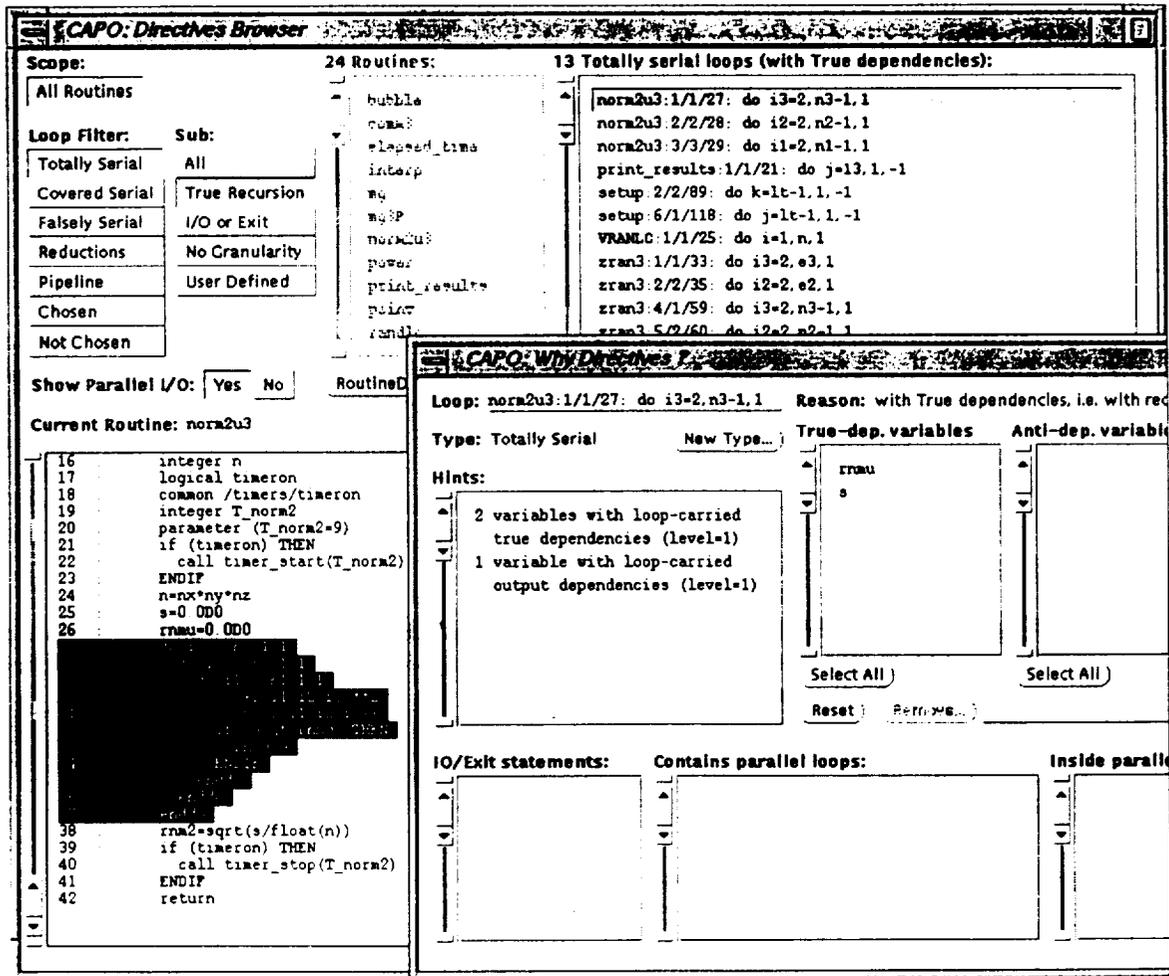

Figure T3-1: The window shows a serial loop in norm2u3, MG.
- 3. Browse directives.** In the **View** menu, click *Directives* to perform the directives analysis. The **Directives** browser will be popped up shortly. Choose scope **All Routines** and loop filter **Totally Serial** and sub-filter **True Recursion**. Select loop: `norm2u3:1/1/27: do i3=2,n3-1` and click the **Why** button. Figure T3-1 is what you will see afterwards. The loop nest (and two others inside) contains an IF statement which prevents the loop being recognized as a reduction loop over variable `rnmul`1. In order to be a valid reduction statement for OpenMP, the code needs to be modified (see Step 5). Without any change, this piece of code will be run in sequential.
Further improvement to the code can be made by parallelizing the loop in routine norm2u3 (the highlighted area in Figure T3-1). The operations inside the loop nest can be expressed as reductions with slight code modification. There are two ways to achieve the goal: modifying the serial code and re-performing the dependence analysis (Steps 5-7) or user enforcing loop type in the tool without re-analysis (Steps 8-9).